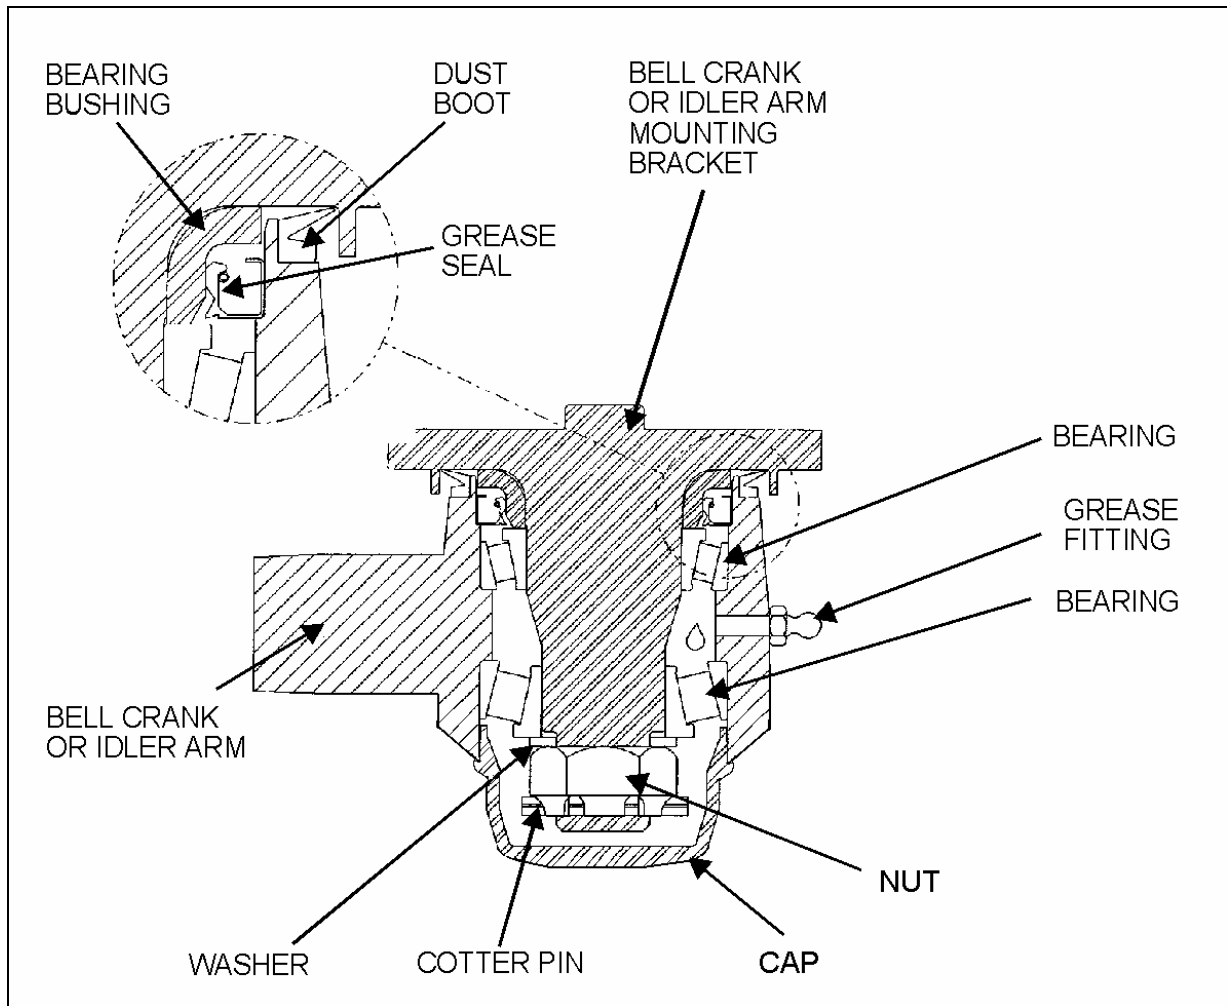

FIGURE 8: BELL CRANK AND IDLER ARM BALL JOINT
2. Remove the cap (Fig. 8).
3. Remove the cotter pin, nut and tongue washer. Remove bearings, grease seal, bearing bushing and the bell crank or idler arm from its mounting bracket stud (Fig. 8).
2. Install bearing and grease seal in bell crank or idler arm eye (Fig. 8).
Note : Install grease seal according to figure 8. Grease must be able to exit the bell crank or idler arm mechanism. For grease seal installation use tool Prévost # 110683.
3. Install bell crank or idler arm on its mounting bracket stud (Fig. 8).
7. Check for loose bearings by applying an up and down load on bell crank or idler lever (Fig. 8). The lever is not supposed to move in the vertical axis direction.
- Note:** Bend cotter pin around the nut (Fig. 8). Do not bend the cotter pin in the direction of the cap, because it may interfere with the cap.